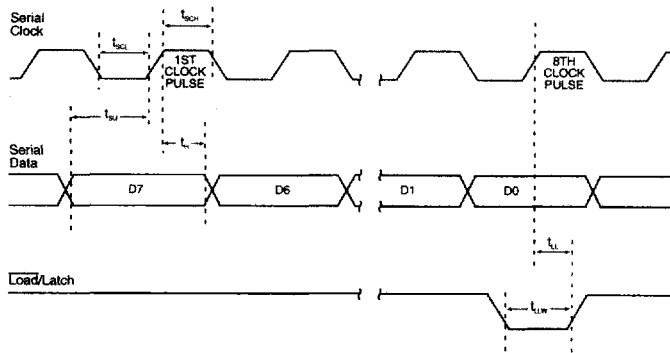

Figure 4: Serial interface Timing Diagram
Serial data is loaded into the MX109's serial shift register together with the serial clock. When a logic "0" is applied to the Load/Latch input the serial data is loaded into the parallel register. A logic "1" on the Load/Latch input latches the data into the parallel register to be used elsewhere in the chip. The data word format (see section 5.1.1) and bit settings (see section 5.1.2) are shown below. The timing diagram for loading the serial data is shown in Figure 4.
4. Relative Timings are shown in Figure 4.